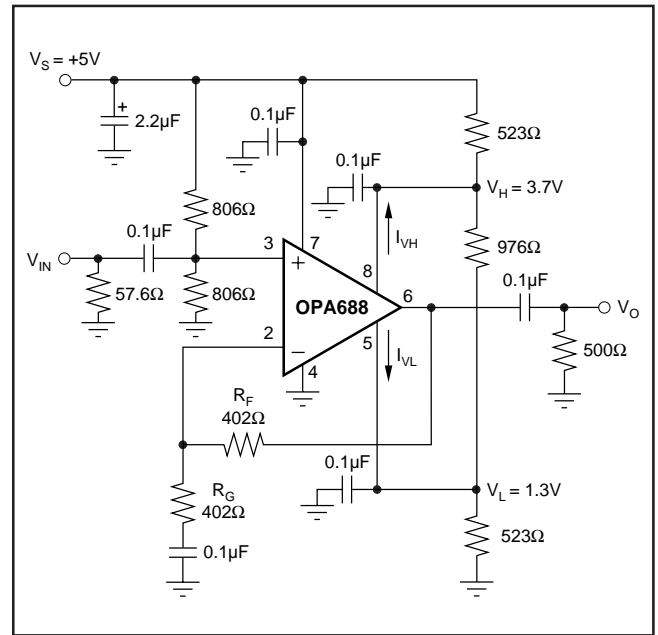

FIGURE 2. AC-Coupled, Single Supply Amplifier.
NOTES: (1) Junction Temperature = Ambient Temperature for low temperature limit and 25°C guaranteed specifications. Junction Temperature = Ambient Temperature + 23°C at high temperature limit guaranteed specifications. (2) TEST LEVELS: (A) 100% tested at 25°C. Over temperature limits by characterization and simulation. (B) Limits set by characterization and simulation. (C) Typical value for information only. (3) Current is considered positive out of node. (4) CMIR tested as < 3dB degradation from minimum CMRR at specified limits. (5)  $I_{VH}$  ( $V_H$  bias current) is negative, and  $I_{VL}$  ( $V_L$  bias current) is positive, under these conditions. See Note 3, Figures 2, and Figure 8. (6) Limiter feedthrough is the ratio of the output magnitude to the sinewave added to  $V_H$  (or  $V_L$ ) when  $V_{IN} = 0$ . (7)  $V_H$  slew rate conditions are:  $V_{IN} = V_{CM} + 0.4V$ ,  $G = +2$ ,  $V_L = V_{CM} - 1.2V$ ,  $V_H =$  step between  $V_{CM} + 1.2V$  and  $V_{CM}$ .  $V_L$  slew rate conditions are similar. (8) Linearity Guardband is defined for an output sinusoid ( $f = 5MHz$ ,  $V_O = V_{CM} \pm 1V_{p-p}$ ) centered between the limiter levels ( $V_H$  and  $V_L$ ). It is the difference between the limiter level and the peak output voltage where SFDR decreases by 3dB (see Figure 9).
$G = +2$ ,  $R_F = 402\Omega$ ,  $R_L = 500\Omega$  tied to  $V_{CM} = 2.5V$ ,  $V_L = V_{CM} - 1.2V$ ,  $V_H = V_{CM} + 1.2V$ , (Figure 2 for AC performance only), unless otherwise noted.
Figure 2 shows an AC coupled, non-inverting gain amplifier for single supply operation. This circuit was used for AC characterization of the OPA688, with a 50Ω source, which
The OPA688 is nominally specified for operation using either ±5V supplies or a single +5V supply. The maximum specified total supply voltage of 12V allows reasonable tolerances on the supplies. Higher supply voltages can break down internal junctions, possibly leading to catastrophic failure. Single supply operation is possible as long as common mode voltage constraints are observed. The common mode input and output voltage specifications can be interpreted as a required headroom to the supply voltage. Observing this input and output headroom requirement will allow design of non-standard or single supply operation circuits. Figure 2 shows one approach to single-supply operation.
When the limiter voltages need to be within 2.1V of the supplies ( $V_L \leq -V_S + 2.1V$  or  $V_H \geq +V_S - 2.1V$ ), consider using low impedance buffers to set  $V_H$  and  $V_L$  to minimize errors due to bias current uncertainty. This will typically be the case for single supply operation ( $V_S = +5V$ ). Figure 2 runs 2.5mA through the resistive divider that sets  $V_H$  and  $V_L$ . This keeps errors due to  $I_{VH}$  and  $I_{VL} < \pm 1\%$  of the target limit voltages.